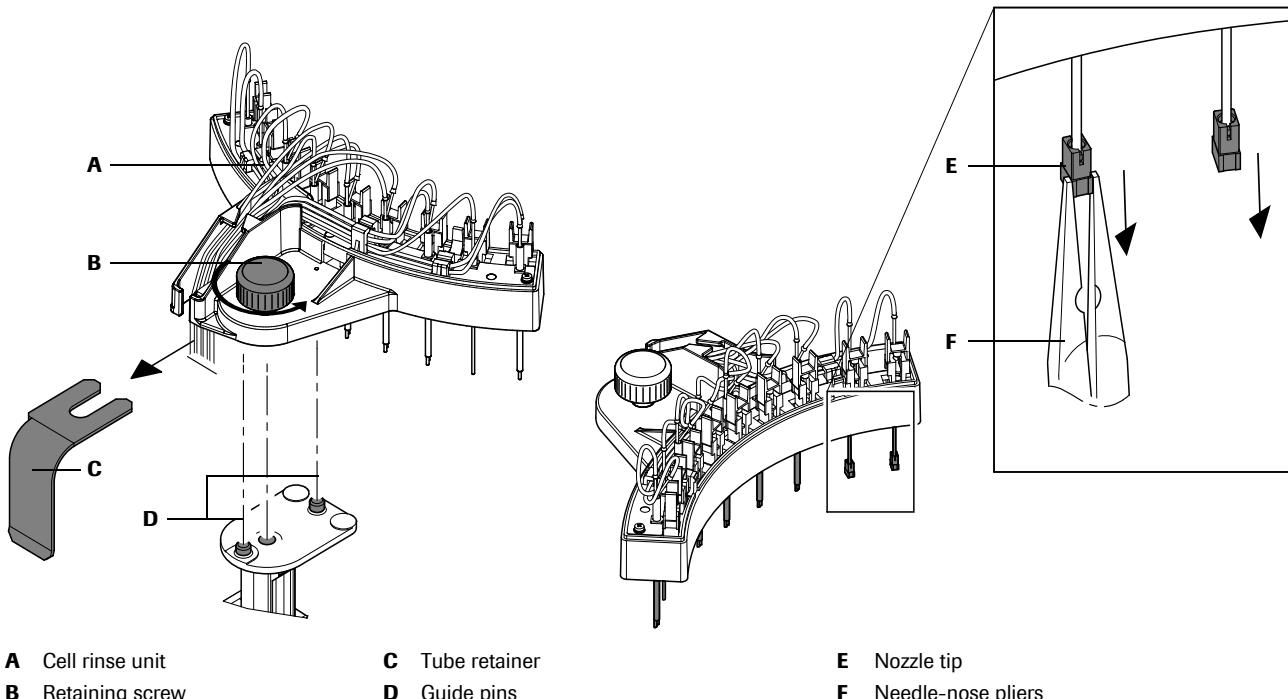

Figure C-47 Dismount the cell rinse unit and replace the nozzle tips
- 6 Align the pin holes of the cell rinse unit with the guide pins (**D**, Figure C-47) and attach the rinse unit.
- 7 Fix the tube retainer (**C**, Figure C-47) below the screw and then mount the unit.